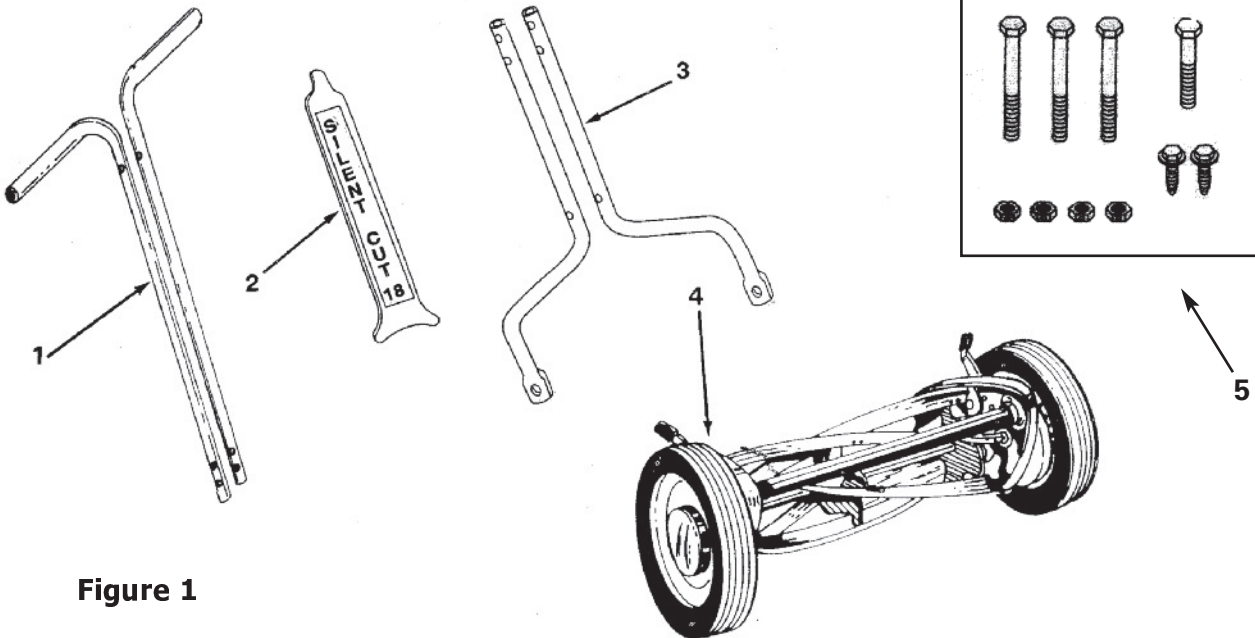

Figure 1
1. Arrange carton contents as shown in figure 1 on page two, and hardware as shown in figure 1 on page 2.